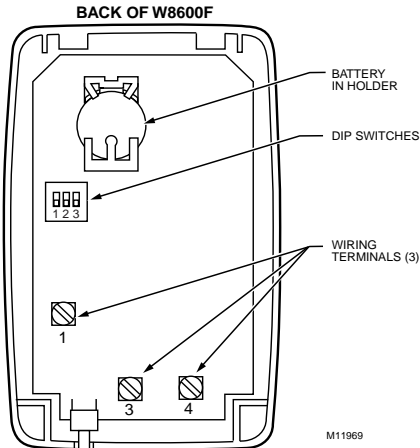

Fig. 4. Back of W8600F.
Refer to Table 2 to select the wash frequency. Set the W8600F DIP switches to match the selection. See Fig. 4. The time listed represents actual run time of the EAC, not calendar days.
2. Connect the wires to terminals E1, E3 and E4 on the W8600F. See Fig. 4.